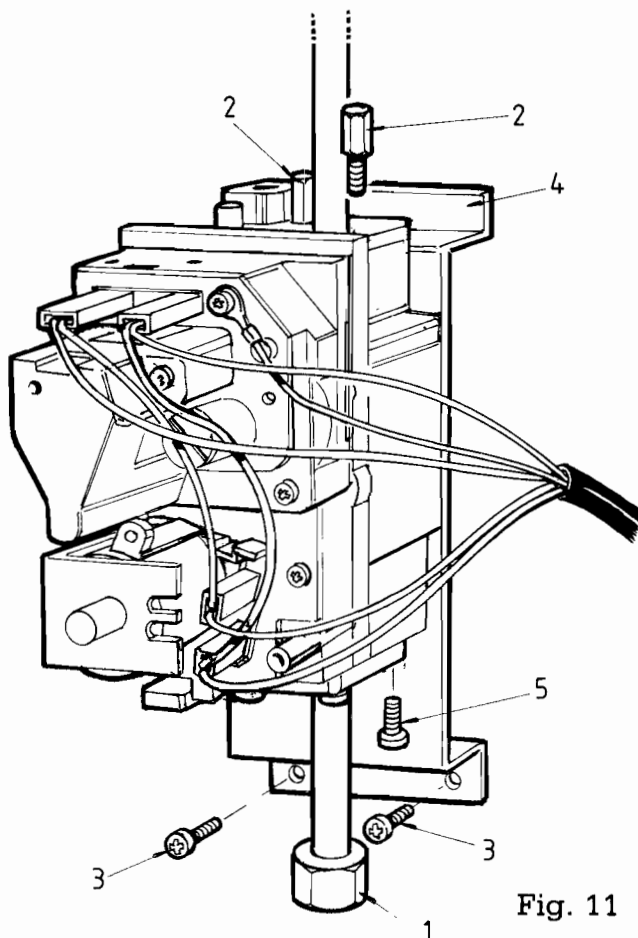

Fig. 11
- (ii) Disconnect the inlet connection (1) at the Neva cock.
- (iii) Remove the two hexagonal headed screws (2) to free the inlet pipe.
- (v) Remove the two screws (3).
- (vi) Pull the solenoid valve forward from its base and remove from the bracket at the top (4). Note the two grub screws used for location.
- (vii) Unscrew the four screws (5) and remove the inlet pipe and 'O' ring.
- (a) Honeywell VR 4705A — model shown in Fig. 11.
- (vi) Disconnect the nut (3) from the inlet pipe to the injector assembly.
- (vii) Remove the two hexheaded screws from the gas valve top (2) and remove the inlet pipe Fig.11.
- (xi) Remove the six screws (5) on the fan seal clamp and transfer the seal and clamp to the replacement heat exchanger assembly.